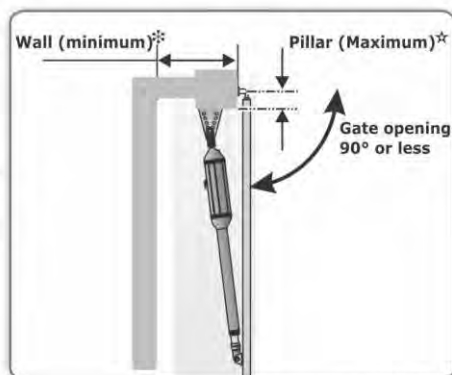

FIGURE 4
- Check that enough space is available for the gate operator with the gate in the required open position. (See Figure 4 and 5)